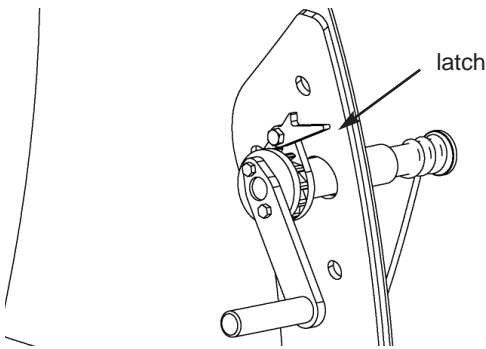

Figure 9 - Crank lock latch
1) Once the lock latch has been released, loosen the side turnbuckles which hold the tray by turning both cranks as shown in Figure 9. The tray should touch the ground.